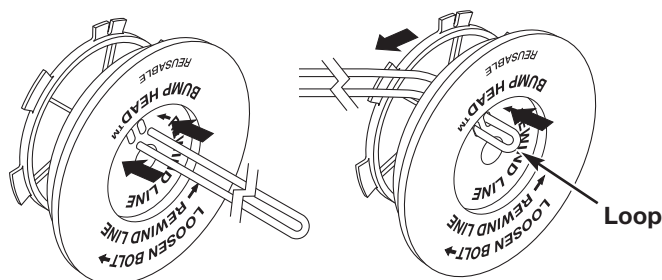

Fig. 35
- Take approximately 20 feet (6 m) of new trimming line, loop it into two equal lengths. Insert each end of the line through one of the two holes in the inner reel (Fig. 35). Pull the line through the inner reel so that the loop is as small as possible.